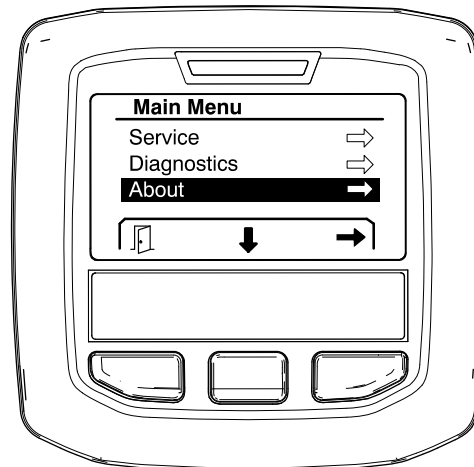

Figure 36
1. To access the about screen, use the middle button to navigate to the ABOUT option, then press the right button to enter into the About screen (Figure 36).